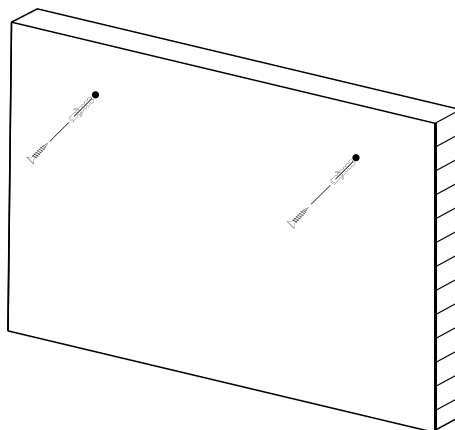
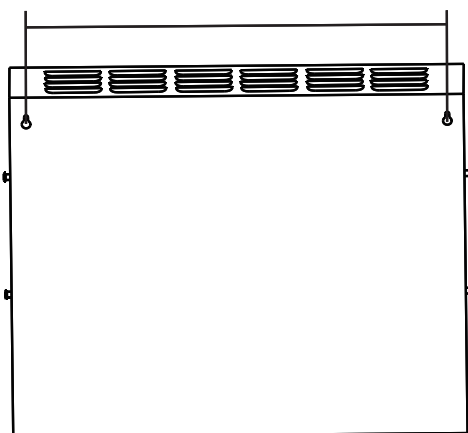

Figure 1
Figure 2
1. Drill the holes (Ø7mm) in the wall according to Figure 1 and Figure 2. Distance between the holes should be 586mm.
3. Offer the appliance up into position, the 2 keyhole slots (see Figure 2) at the back of the suite will sit over the 2 screws protruding from the wall. Ensure the fire is level.